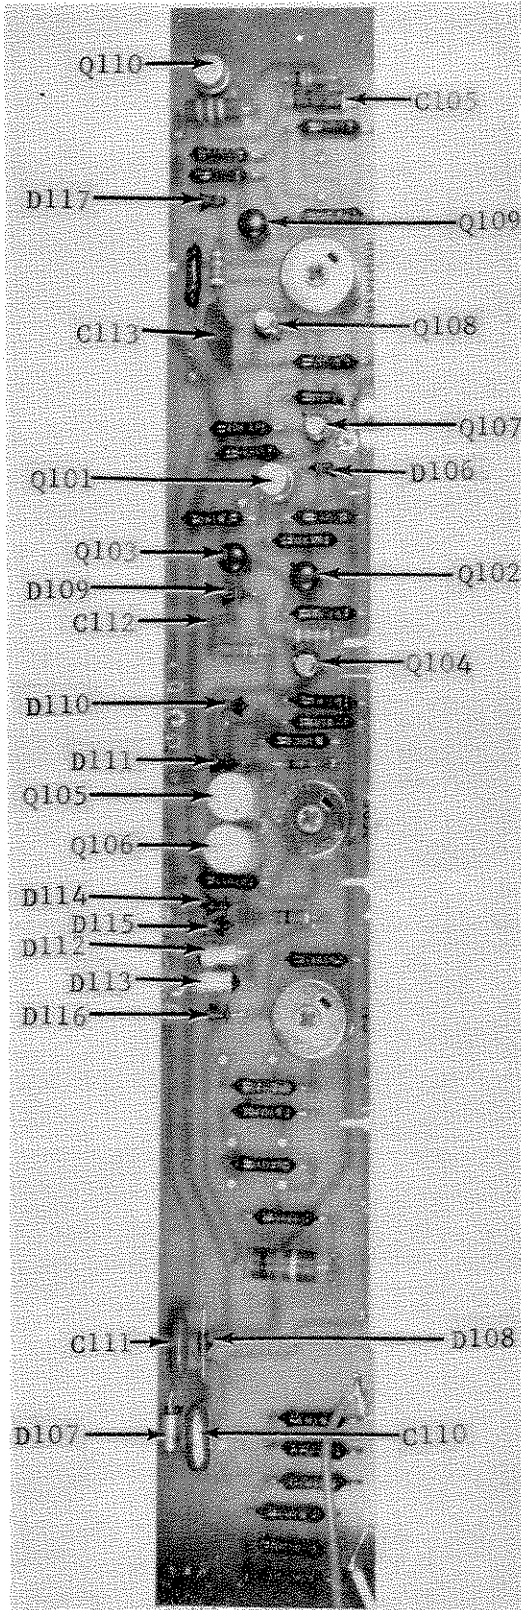

FIGURE 16. Capacitor, Diode and Transistor Locations on Front Section of PC-131.
c. If 105 volts is not present, then either transistor Q109 or Q110 (Figure 16) or the associated circuitry is defective. Measure the voltages within the circuits to locate the trouble.